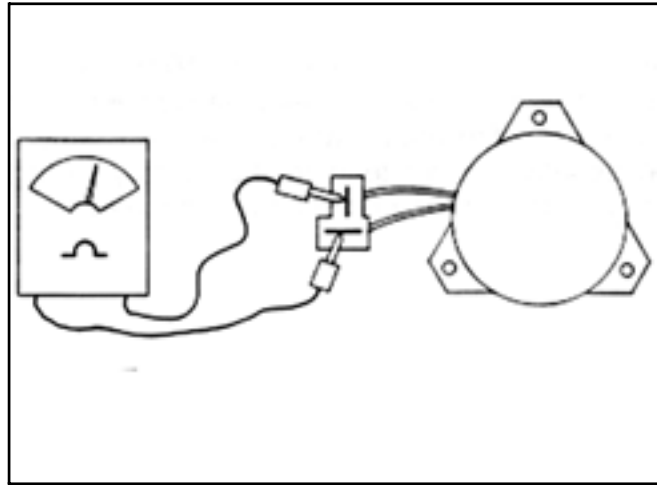

Figure 88
4. Connect the meter lead wires to the wires in the clutch connector (Figure 88).